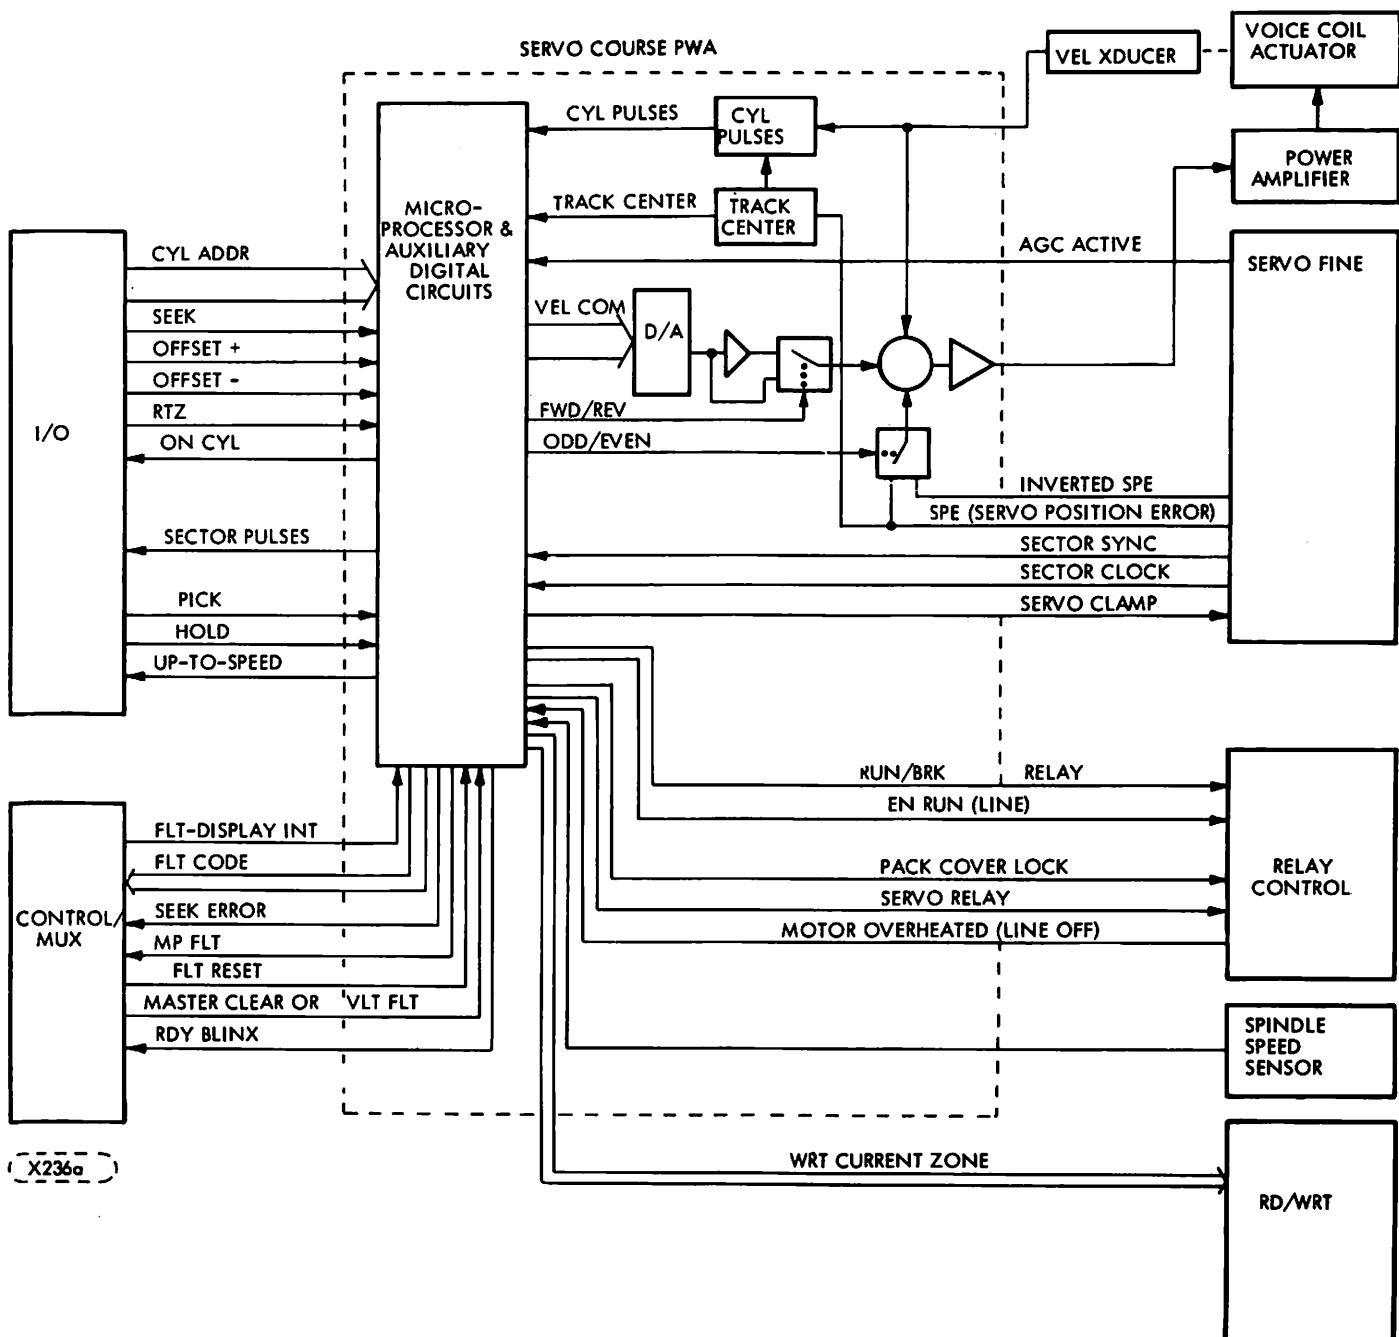

Figure 4-11. Block Diagram of Servo-Coarse PWA and Supporting Elements
**See General Block Diagrams in Figures 4-11 and 4-14.